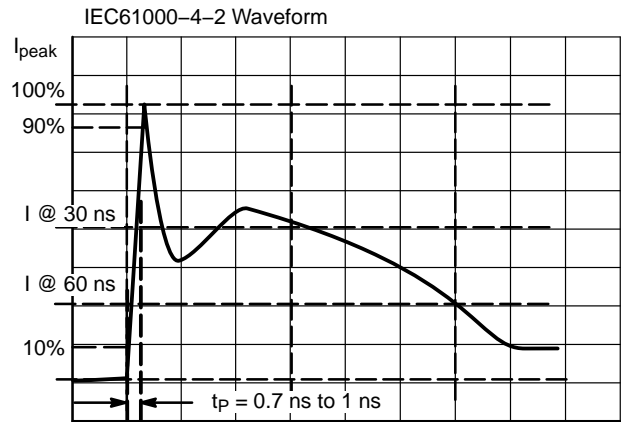

Figure 7. IEC61000-4-2 Spec
- For test procedure see Figures 7 and 8 and application note AND8307/D.